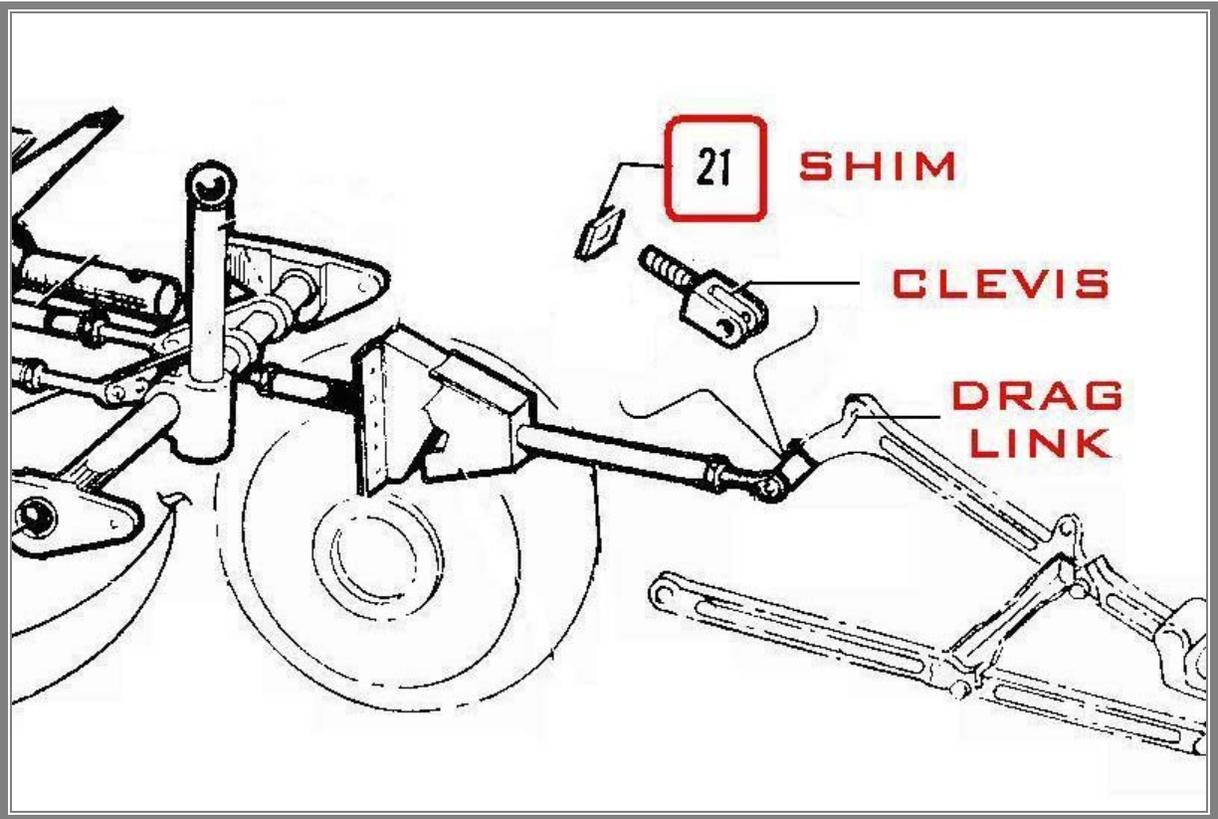

FIGURE 17, ITEM# 21
1) ONE ISSUE THAT WILL AFFECT THE DOORS CLOSURE IS THE SHIM BETWEEN THE CLEVIS AND THE LEFT REAR DRAG LINK. REMOVING A SHIM WILL FURTHER RETRACT THE NOSE GEAR AND THUS PULL THE DOORS FARTHER UP. ADDING A SHIM WILL CONVERSELY LESSEN THE RETRACTION OF THE NOSE GEAR INTO THE WHEEL WELL. NOTE THIS SECTION IN THE SERVICE MANUAL 6-56, C WHICH COVERS THIS ADJUSTMENT. THREE SHIMS MAXIMUM, NO MENTION OF MINIMUM SHIM REQUIREMENT; ONE COULD ASSUME THEREFORE ZERO SHIM IS ALLOWABLE. SEE FIGURE 17, #21 IN THE PARTS CATALOG; AND FIGURE 17 INSET ON PAGE 4 OF THIS DOCUMENT. IF YOU CHANGE THE SHIMS YOU MUST REDO THE NOSE GEAR **RETRACTION** PUSH-PULL ROD **PRELOAD** ADJUSTMENT.; A SOMEWHAT LENGTHY PROCESS.